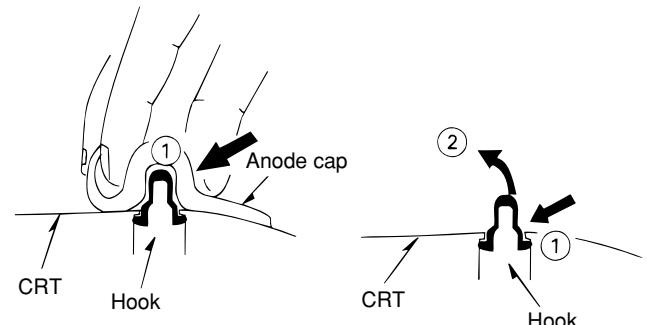

Figure 2-3
(5) Push the anode cap with your thumb in the direction of arrow ① as shown in the figure, then lift the cap in the direction of arrow ② to release the hook on one side. (See Figure 2-3)